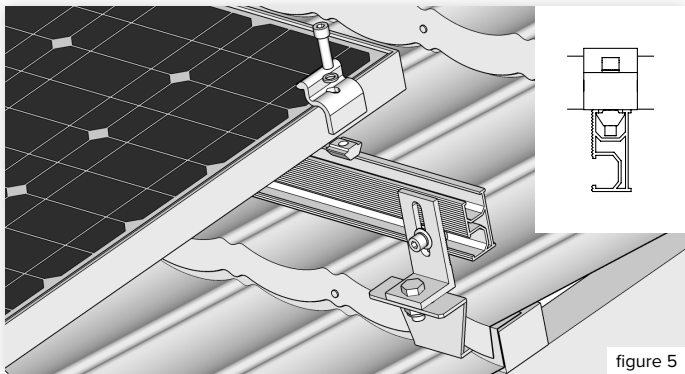

figure 5
11. Fit the solar panel to the rails using the end clamps, fixings and Allen key provided, as per figure 5.